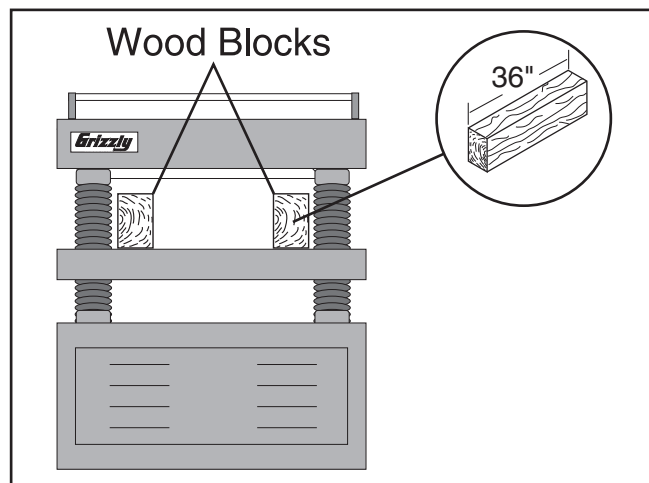

Figure 41. Wood blocks properly positioned on the planer table.
4. Place the wood blocks along the sides of the table, as illustrated in **Figure 41**.